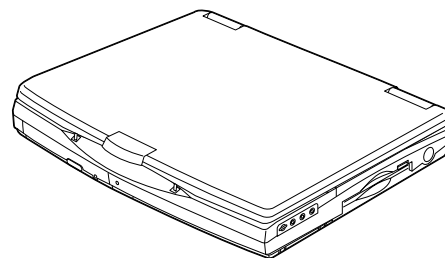

Figure 1-1 LifeBook C Series Notebook
- LifeBook C Series notebook from Fujitsu. (*Figure 1-1.*)